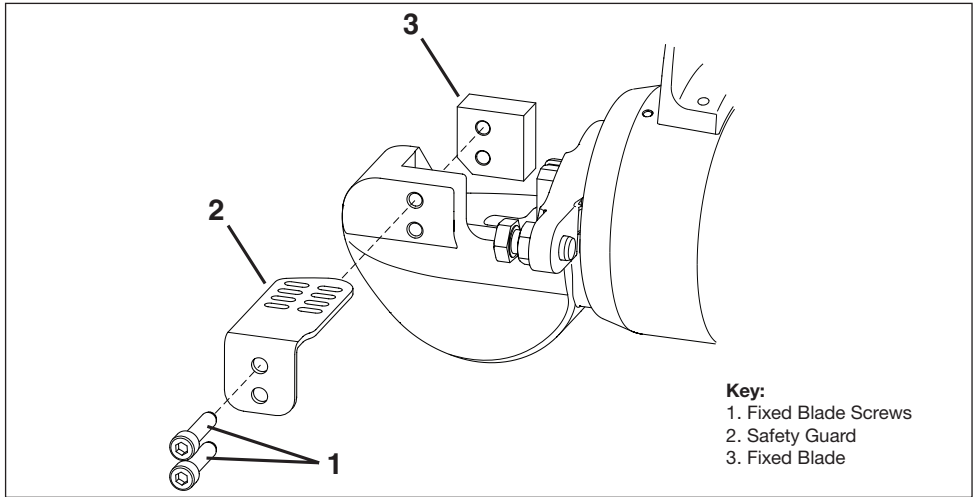

Figure 10, Fixed Blade Replacement
Replace the fixed blade as described in the following steps. Refer to Figure 10, items 1, 2 and 3.